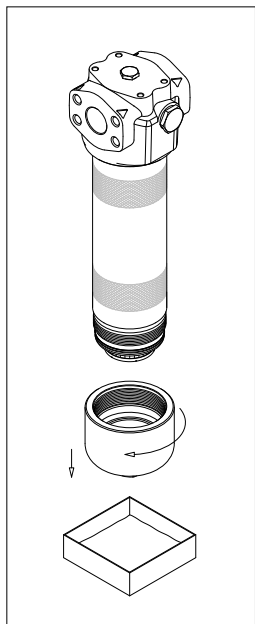

fig. 9
- (Fig. 9) Unscrew the bowl cover after placing a vessel to collect the operating fluid